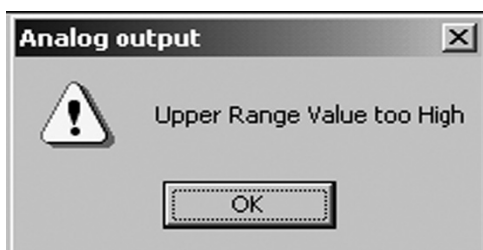

Fig.102
- ② With all setup items entered and "OK" button clicked, when an error is found in these settings on the part of the transmitter, a warning error box like the one shown in Fig. 102 appears.